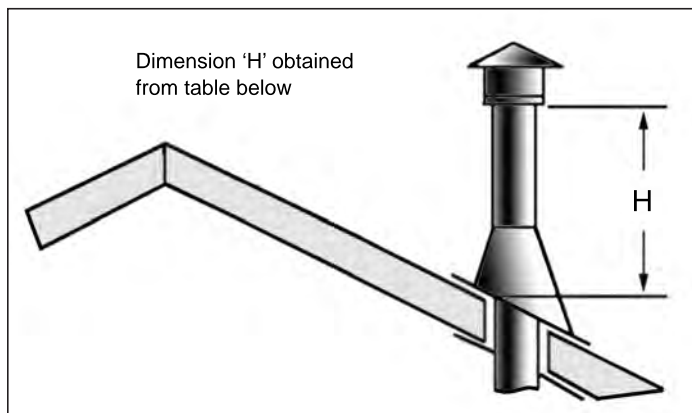

Figure 29: Height of Vertical Termination; Reference Table 7.
- STEP 8.** Continue to add pipe sections until the height of the vent cap meets the minimum code requirements. Refer to Figure 29 and Table 7. Note that for steep roof pitches, the vent height must be increased. In high wind conditions, nearby trees, adjoining roof lines, steep pitched roofs, and other similar factors can result in poor draft, or down drafting. In these cases, increasing the vent height may solve the problem.
Table 7: Minimum 'H' for Figure 29.